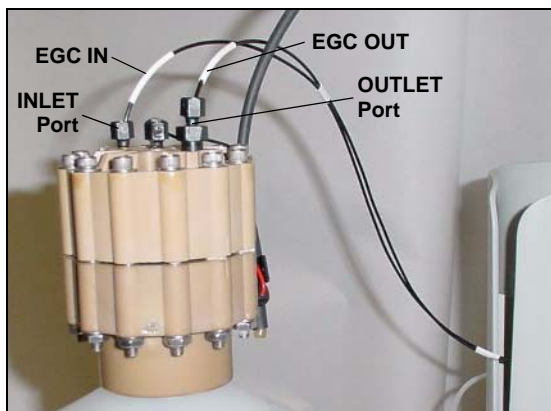

Figure 5-77. EluGen Cartridge Inlet and Outlet Port Connections
2. Connect the **EGC IN** line to the EluGen cartridge **INLET** port (see Figure 5-77).